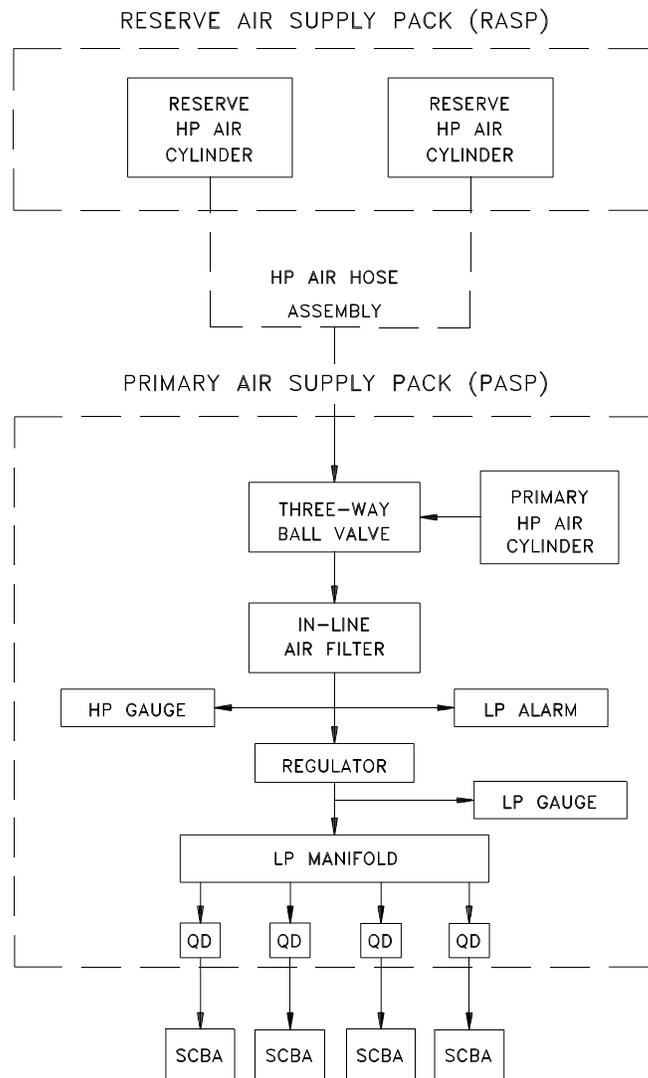

Figure 3-5. SAR/SCBA Airflow Diagram
3.4.1 SAR Airflow Process. High-pressure air, Grade D or higher, supplies the SAR/SCBA system. Under normal operating conditions, PASP/RASP HP air cylinders serve as the external source of air for SCBA users. Figure 3-5 illustrates the airflow process. Compressed air flows from the PASP and RASP air cylinders through HP air hoses connected to the PASP CPA. A three-way ball valve on the PASP CPA allows the operator to select the on-line cylinder. When the three-way ball valve is in the open position, the airflow process begins. An air filter below the three-way ball valve collects particulate matter before the air reaches the regulator. The HP and LP gauges monitor airflow pressure to and from the regulator. The LP alarm sounds when the air pressure drops to 500 psig. The alarm alerts the PASP/RASP operator to switch to the on-line cylinder.